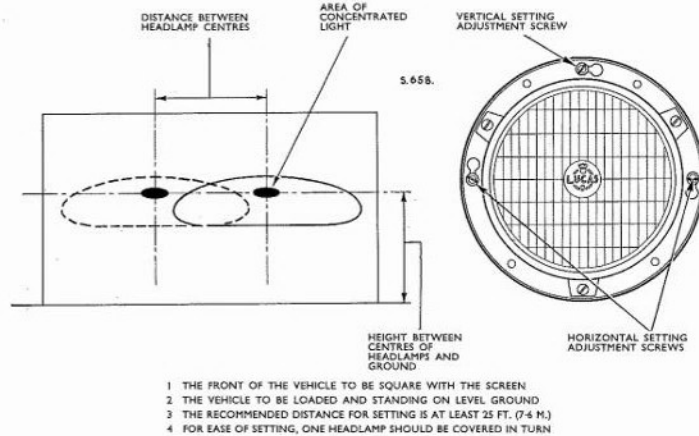

Fig. N.40. Setting the headlamp beams
3. When setting the lamps place the vehicle on a level surface squarely in front of a blank wall or screen at a distance of at least 25 ft. (7.5 m.) (See Fig. N.40).